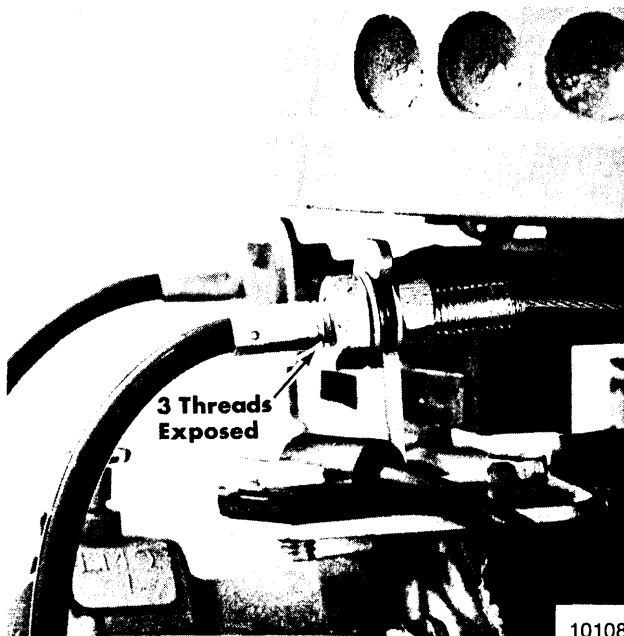

Figure 2. Throttle Cable Adjustment
24. While facing front of carburetor, loosen jam nuts on left throttle cable and remove cable from cable mounting bracket. Turn steering handle throttle grip to idle position and adjust jam nuts on right throttle cable to fully engage the mounting bracket, then back off the length of 3 threads. (Figure 2) Tighten both right throttle cable jam nuts. Place left throttle cable back into cable mounting bracket, and adjust jam nuts to remove slack from left throttle cable wire. Tighten both jam nuts.